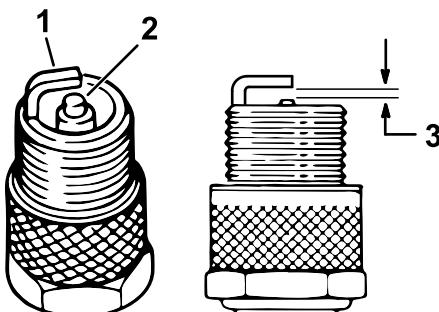

Figure 40
4. Check the condition of the side electrode, center electrode, and center electrode insulator to ensure that there is no damage (Figure 40).
5. Set the air gap between the center and side of the electrodes at 1 mm (0.04 inch) as shown in Figure 40.